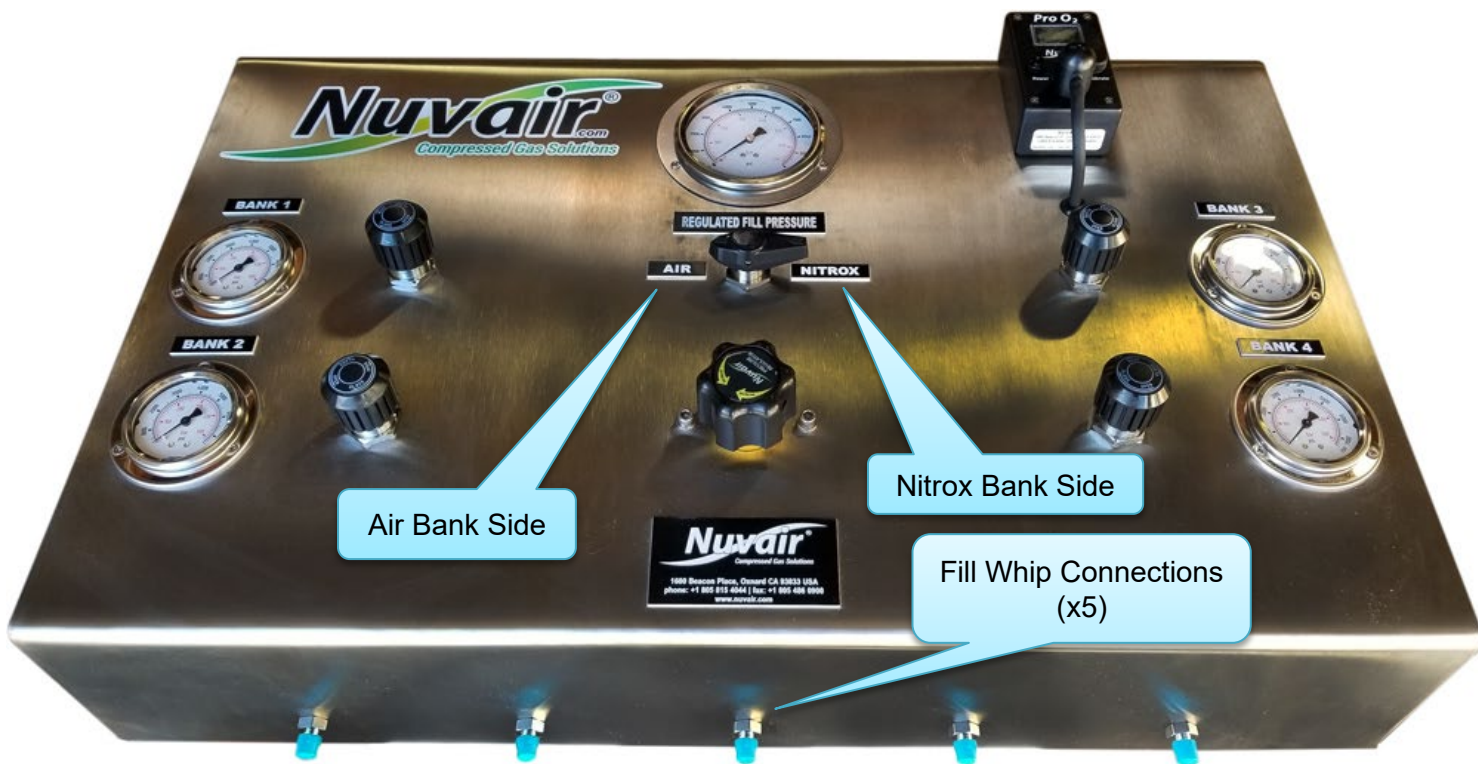

Figure 3. Fill panel outputs along the bottom edge of fill panel.
Gas (air or nitrox) fill pressure is regulated by the output regulator. The regulated gas pressure of the output gas, leading to the five (5) fill whip connectors (Figure 3), is shown on the regulated fill pressure gauge.
The Nuvair Pro O₂ Analyzer indicates the percentage of oxygen (O₂) in the gas mix being fed to fill whip connections (Figure 3).
There are five (5) fill whip connections on the bottom edge of the fill panel (Figure 3). This is where the final output of gas from the fill panel is delivered.